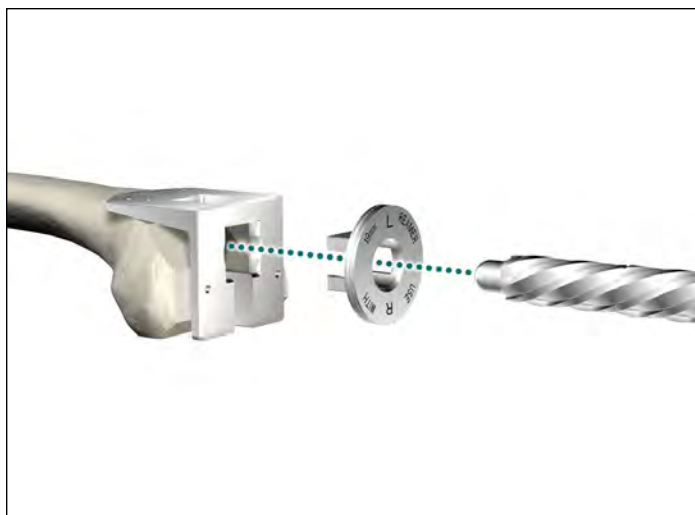

Figure 30
- Insert the Femoral Boss Reamer Bushing into the Femoral Boss Preparation Guide, paying careful attention to clock it such that it reads either "Left" or "Right" depending on which is appropriate (**Figure 30**).